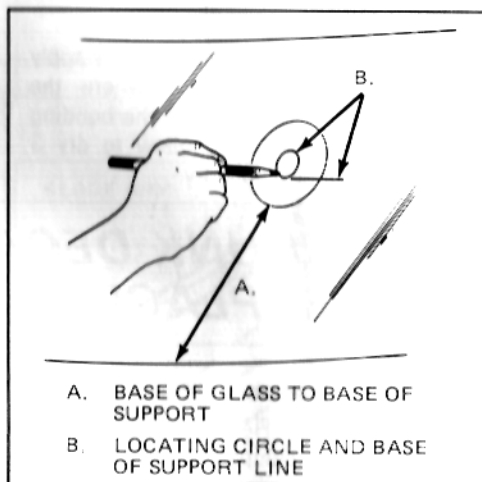

Figure 1 - Locating bonded rearview mirror support on glass
1. Locate support position at center of glass 623mm (24 9/16 inches) from base of glass to base of support. See Figure 1.